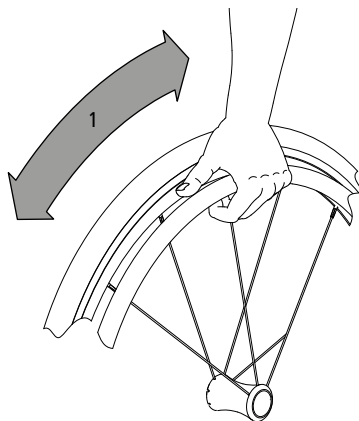

Fig. 18
1. To do this, hold the push rims with your hands and turn the wheel towards the front or back (1, Fig. 18). Place your hand on the push rim with the thumb in the direction of movement and form a fist enclosing the push rim.